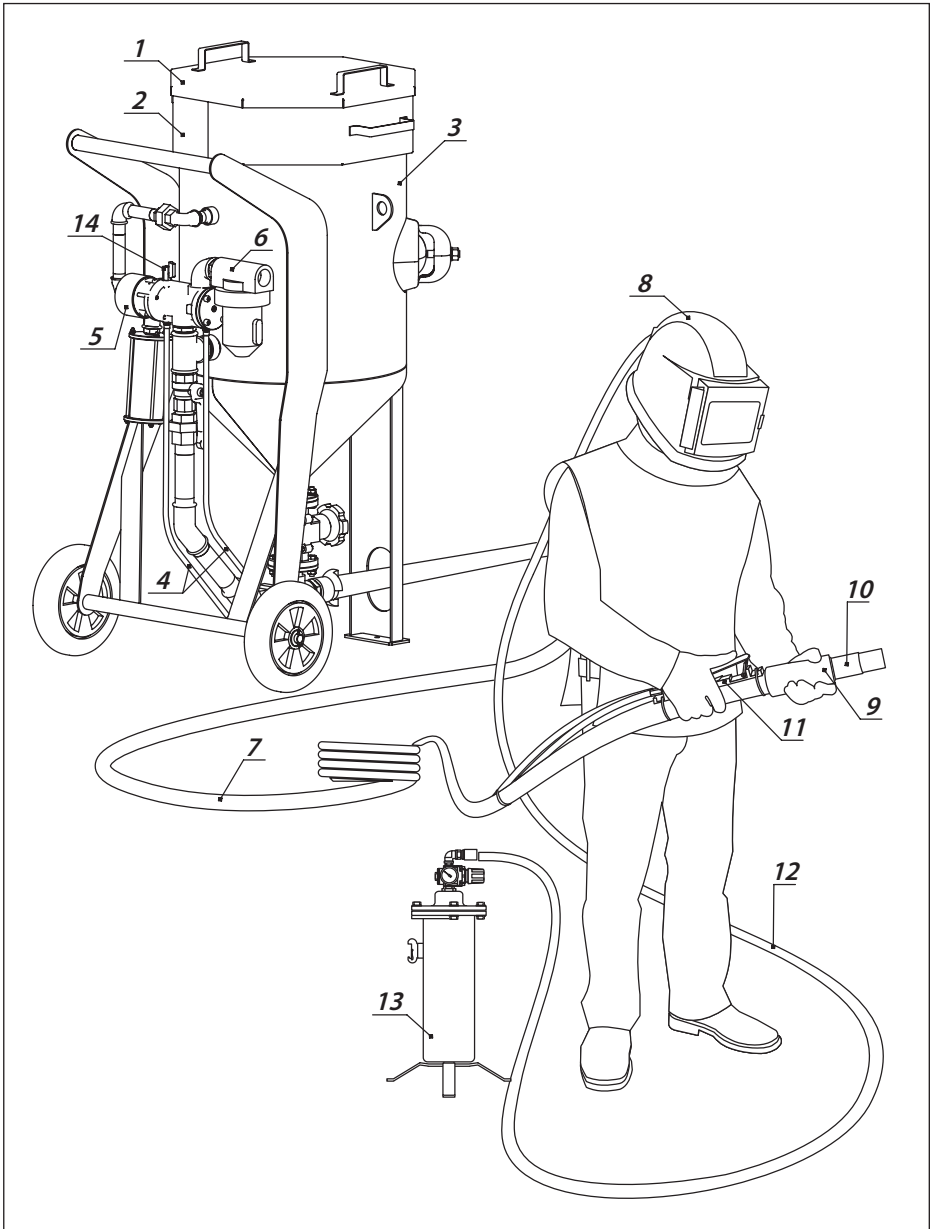

Fig. 2.1.
◀ Fig. 2.1.
10. Open the safety ball valve 14 (Fig.2.1).